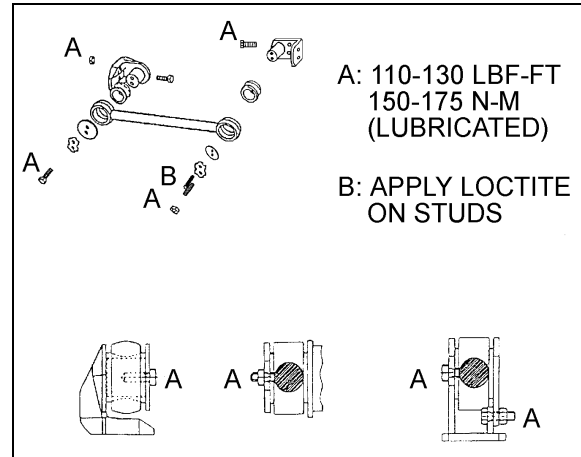

FIGURE 47: RADIUS ROD INSTALLATION 16028
1. Lightly spray the radius rod support with water. Place the radius rod end over the radius rod support (Fig. 47).